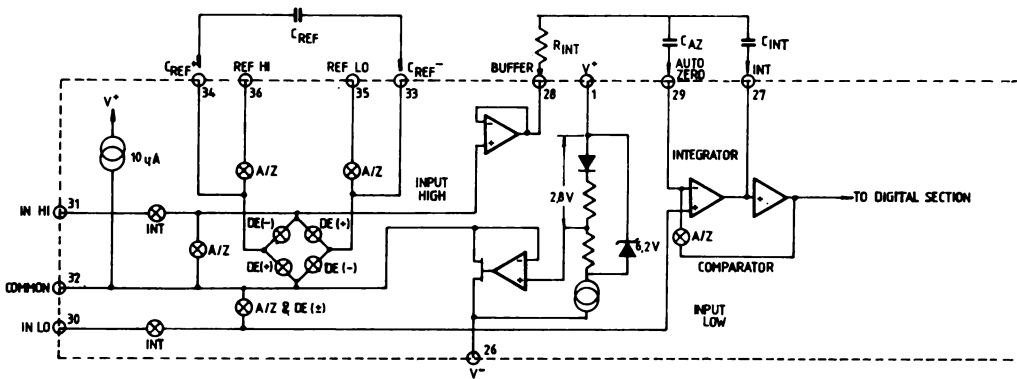

Figure 3: Analog Section of 7106/7107
Figure 3 shows the Block Diagram of the Analog Section for the MMC 7106 and 7107. Each measurement cycle is divided into three phases. They are (1) auto-zero (A—Z), (2) signal integrate (INT) and (3) deintegrate (DE).
Fig.3 7107 with Zener diode reference. Since low T. C. Zeners have breakdown voltage $\approx 6.8 V$, diode must be placed across the total supply (10V). IN LO may be tied to either COMMON or GND